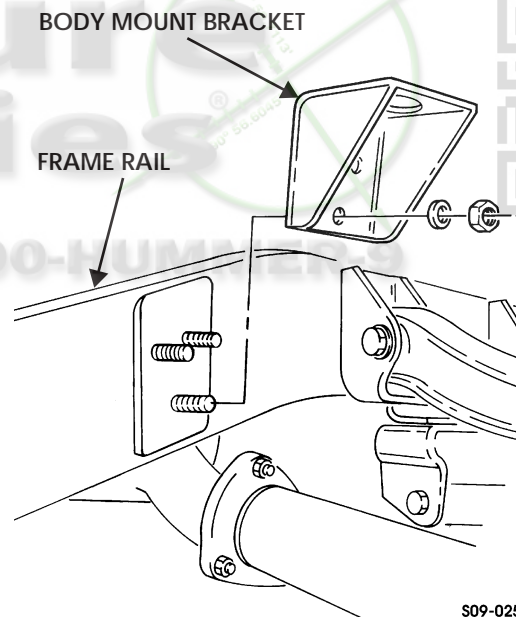

Figure 9-37: Left Intermediate Body Mount Bracket
3. Remove three locknuts, washers, and body mount bracket from frame rail. Discard locknuts (Figure 9-37).
1. Install body mount bracket on three capscrews and frame rail with three washers and locknuts. Tighten locknuts to 90 lb-ft (122 N•m) (Figure 9-37).